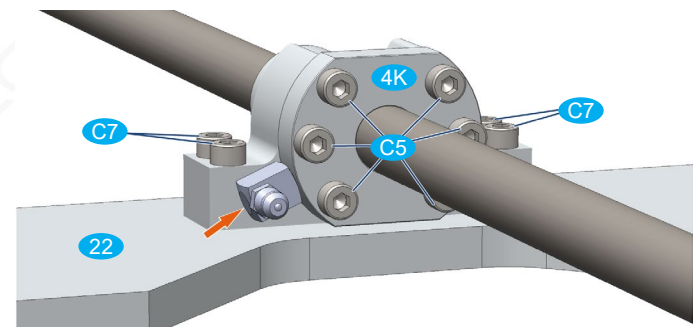

Fig. 23: Mounting flange bracket
- Tighten the fixing screws **C5** of the ball nut on the flange bracket X (see Figure 23). Tightening torque: 6 Nm
- Carefully tighten the fastening screws **C7** of the flange bracket X on the gantry beam (see Fig. 23).